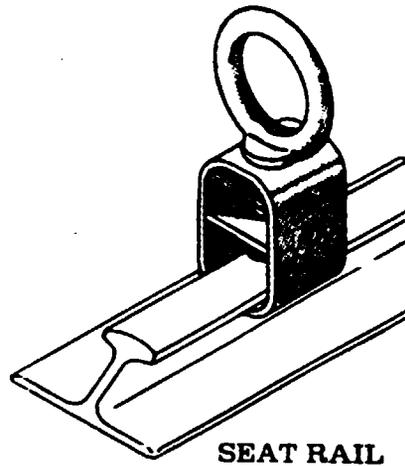

Figure 3-9. Cargo Tie-Down Rings
- 3-52. **CARGO TIE-DOWNS.** (See figure 3-9.) Cargo tie-downs are used to ensure baggage cannot enter seating area during flight. Methods of attaching tie-downs are illustrated in the figure. The eyebolt and nutplate can be located at various points. The sliding tie-down lugs also utilize eyebolts and attach to seat rails.